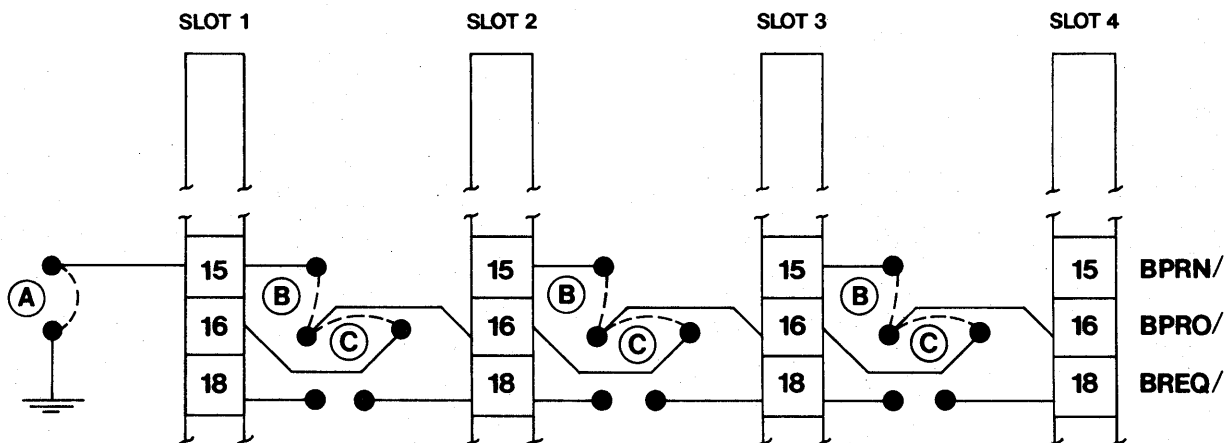

Figure 2.3 *Symbolics 4-slot MULTIBUS backplane, front view*
- For serial-priority resolution, the Bus Priority In (BPRN) and BPRO signals must be chained correctly between boards in the card cage through use of backplane jumpers and/or ensuring that no empty slots exist between boards. Figure 2.3 shows the location of the jumpers on the Symbolics 4-slot MULTIBUS backplane (as seen from the front):